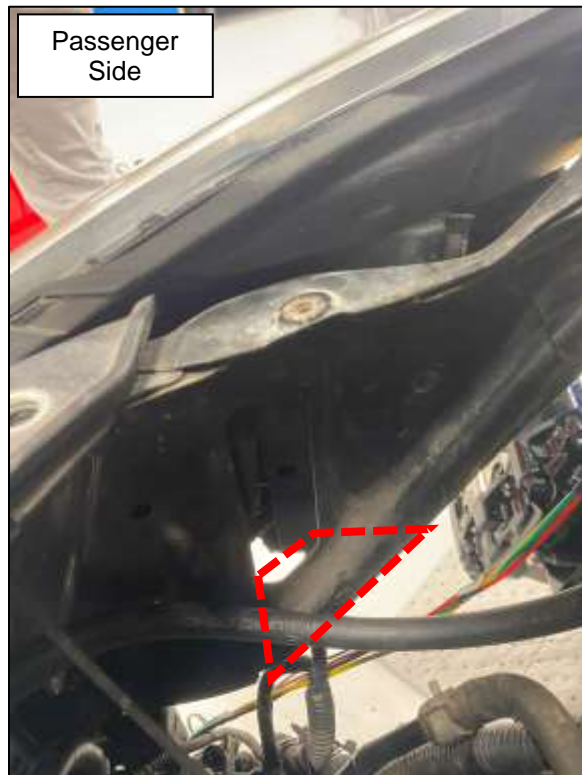

Figure 16
4. **350Z Owners:** The Headlight Buckets on both sides will need to be trimmed and enlarged to allow clearance for Charge Piping. View *Figure 16* below on where to trim. It may be necessary to trim more later once the Blower is installed if there is not enough room.